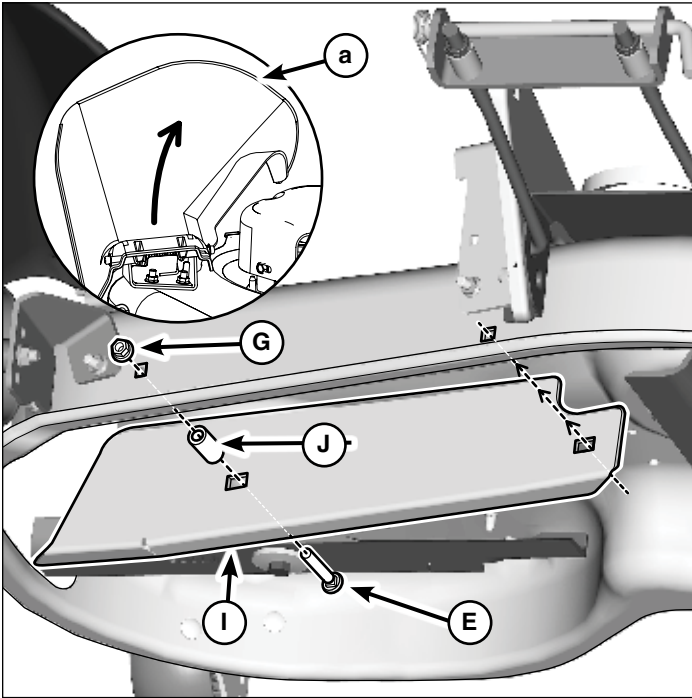

Figure 5
1. Put the deflector (a, Figure 5) in the vertical position.
2. Put the baffle (I) into the discharge opening. Attach the left side of the baffle with a carriage bolt (E), spacer (J) and a whiz lock nut (G).